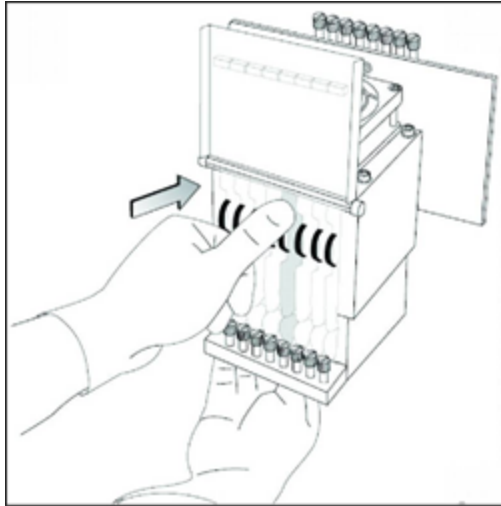

Figure 6-65 Inserting the print-head driver card into its socket
- b. Re-insert the print-head driver card into its socket (see Figure 6-65 on page 6-48).